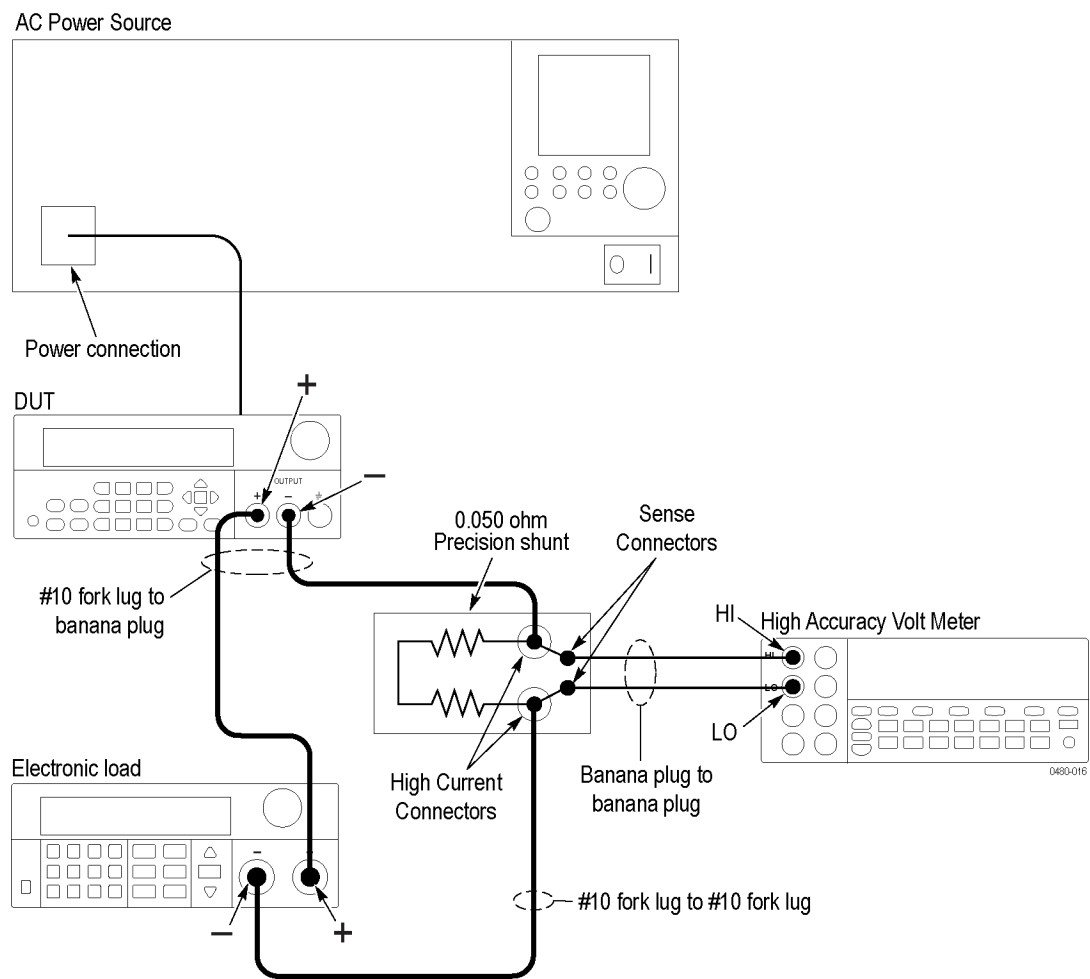

Figure 4: DC current accuracy and regulation test setup
1. Set up the equipment as shown. (See Figure 4.)
This check procedure uses the same test setup as the previous procedure. (See Figure 4 on page 35.)